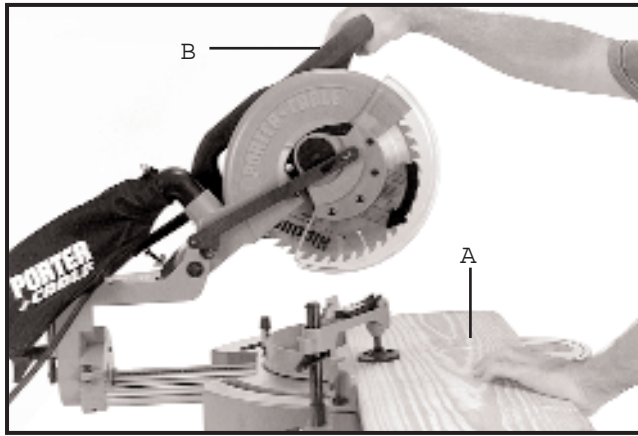

Fig. 39
1. Place the workpiece (A) on the table and against the fence, as shown in Fig. 39. Grasp the cuttinghead handle (B) but do not turn the saw on at this time.